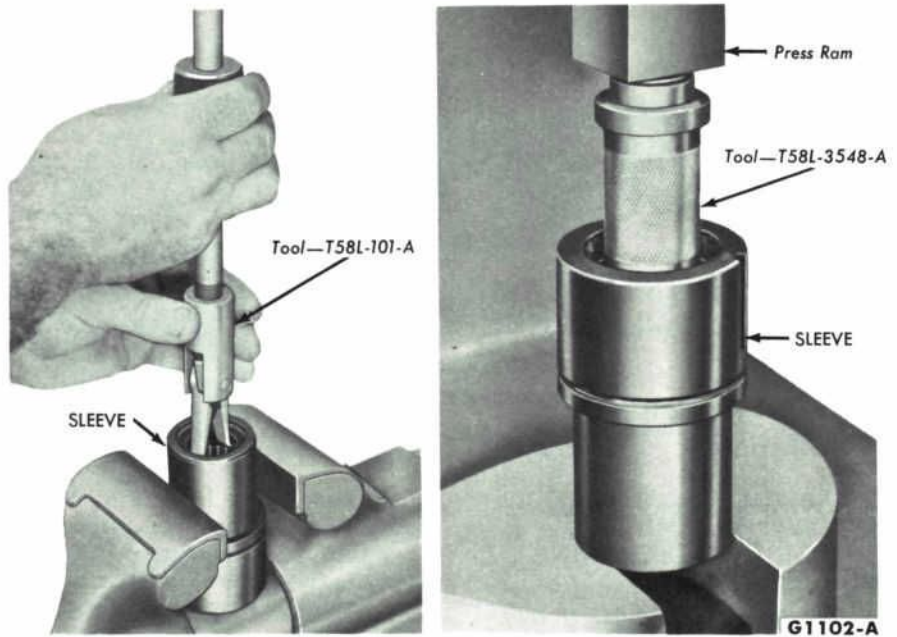

FIG. 53— Sleeve Seal and Bearing Removal
10. Check the sleeve bearing for freedom of rotation. If the bearing is satisfactory, remove the snap ring and replace the oil seal. If the bearing must be replaced, remove the seal, and then remove the bearing, using the tools shown in Fig. 53.